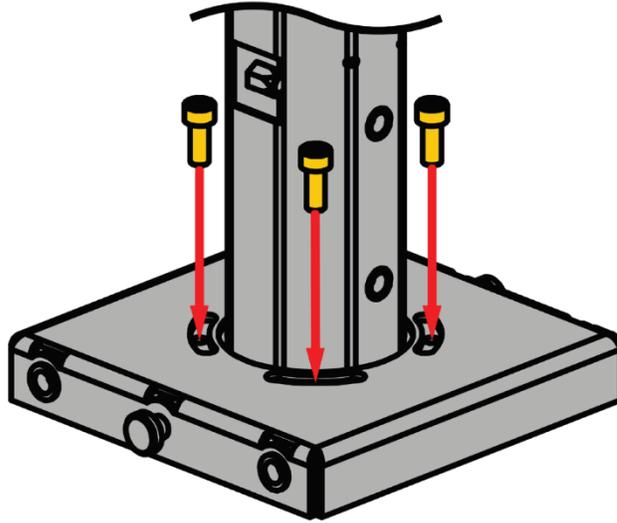

Figure 79:
Step 5: Tighten the top plate ④ to the lower tube ③ using the bolts ⑧ (4 pcs.), as shown in **Figure 79**.